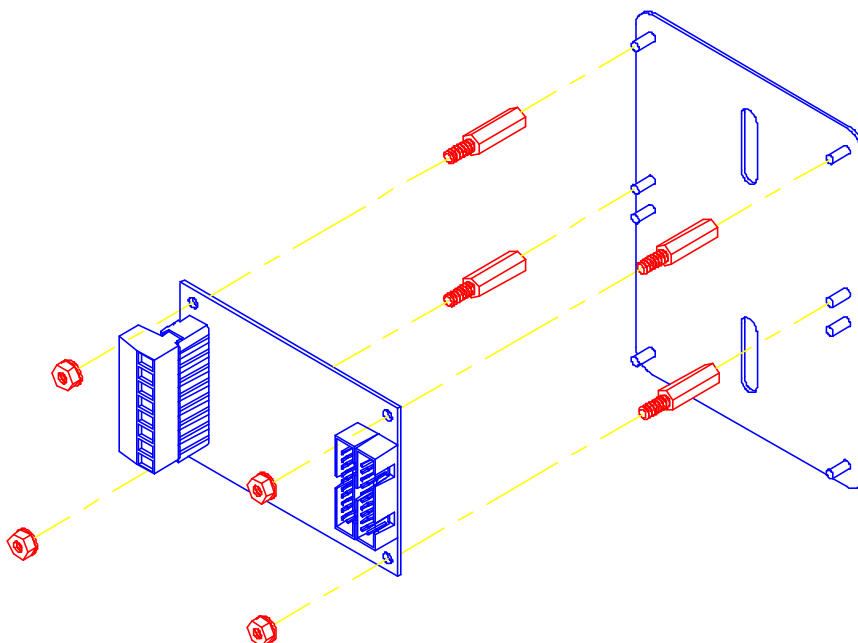

Figure 13-6: Installing an SBM on a Two-Option Mounting Plate
8. Install the 4 aluminum standoffs included in each 60 Series Option Kit onto the studs on the mounting plate. See Figure 13-6.